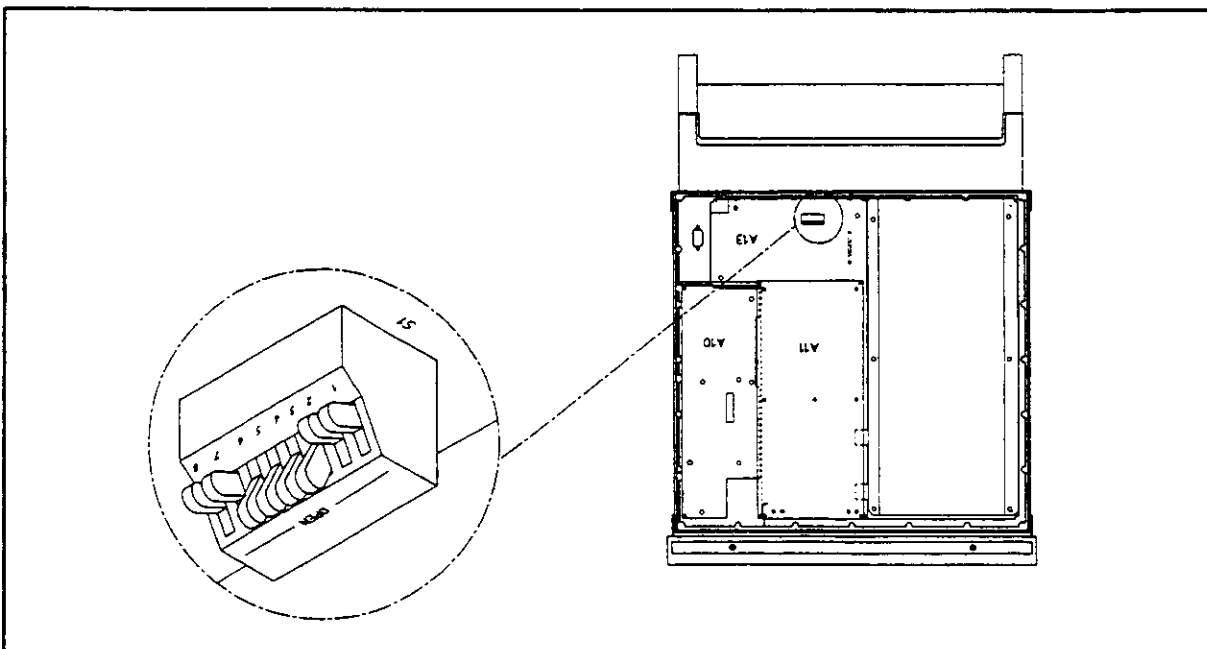

Figure 2-4. HP 8657B HP-IB Address Switch Location
- c. Refer to Figure 2-4. Locate the HP-IB address switch S1 on the A13 Microprocessor assembly. Using table 2-4 as a reference, set S1 to the HP-IB address you require. For example to set the HP-IB address to 03 (decimal), switch segments A1 and A2 would be set to open and switch segments A3, A4 and A5 would be set to closed.